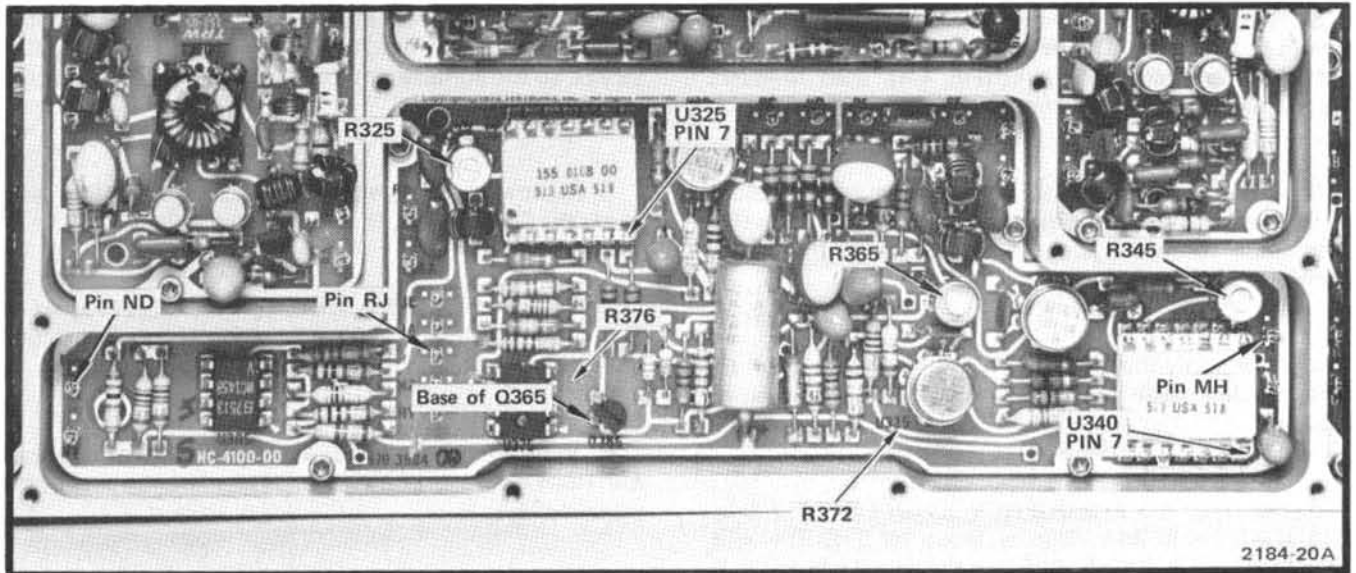
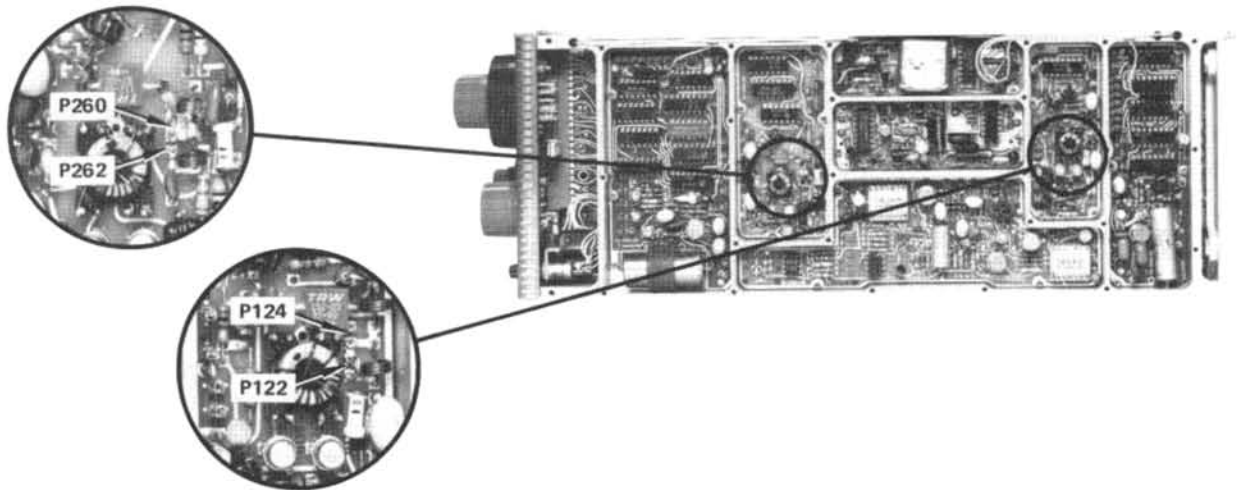

Fig. 4-6. Test point and adjustment locations for the A & B Oscillator Control.
Fig. 4-8. Location of A & B Oscillator frequency determining jumpers.
b. Connect a DVM (digital voltmeter) to the base of Q365 (A and B Oscillator Control 7) and adjust R365 (Fig. 4-6) for a reading of 11.00 volts.
1. Adjust R655 (Fig. 4-8) for 0 V at pin RJ (Fig. 4-6) then add or remove jumpers P122 and/or P124 (Tektronix Part No. 131-1493-00) so the DOT is close to, but not to the right of, center screen (high frequency side).
e. Set the DOT FREQUENCY to 00.00 kHz and connect the DVM to pin MH (A Memory) of the A and B Oscillator Control (Fig. 4-6). Note the voltage.
g. Adjust the A Memory Gain with R345 (Fig. 4-6) until the voltage difference between step e and f is 16.6 to 16.7 volts.
h. Set the DOT FREQUENCY to 50.00 kHz then check the voltage at pin ND of the A and B Oscillator Control (Fig. 4-6). If the voltage is more than ± 1.5 V, remove or add jumpers P260 and P262 (Fig. 4-8) to decrease the voltage below ± 1.5 V.
i. Set the DOT FREQUENCY to 99.75 kHz. Measure the voltage at pin ND of the A and B Oscillator Control assembly (Fig. 4-6). Note this voltage.
k. Adjust the B Gain with R325 (Fig. 4-6) until the voltage difference at pin ND, between the two DOT FREQUENCY settings (steps i and j), is 18.0 volts.